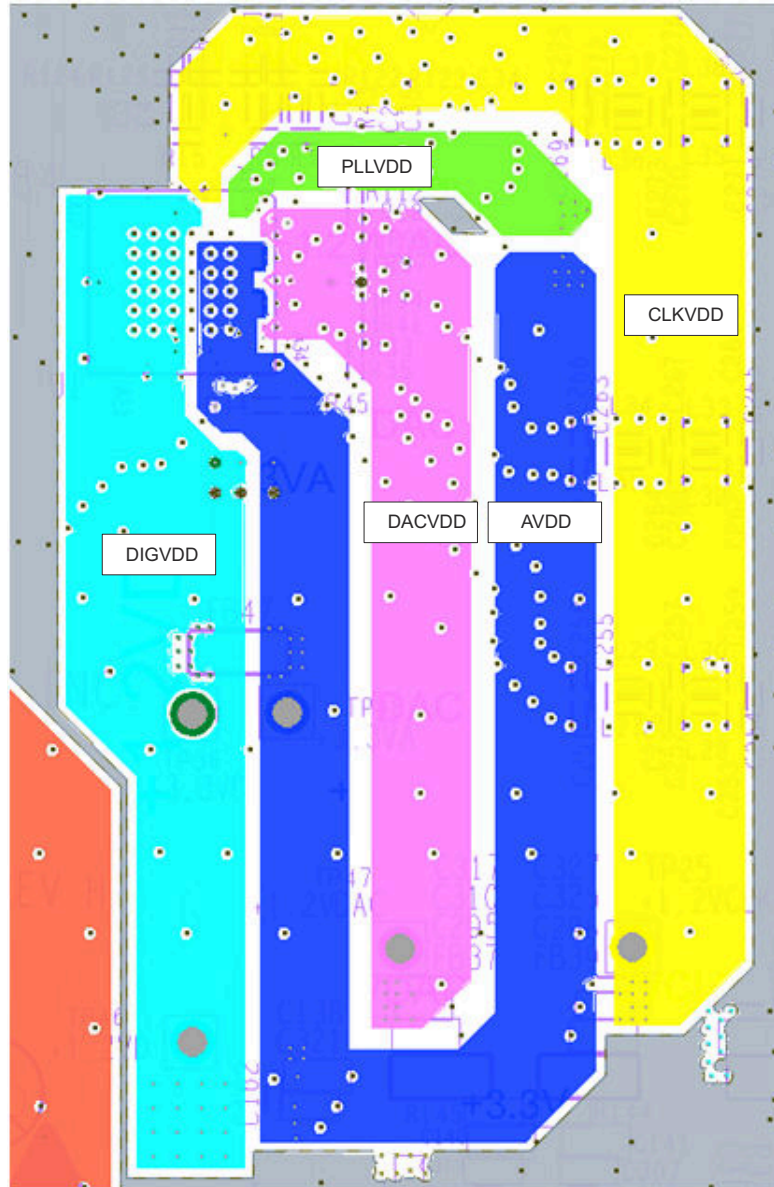
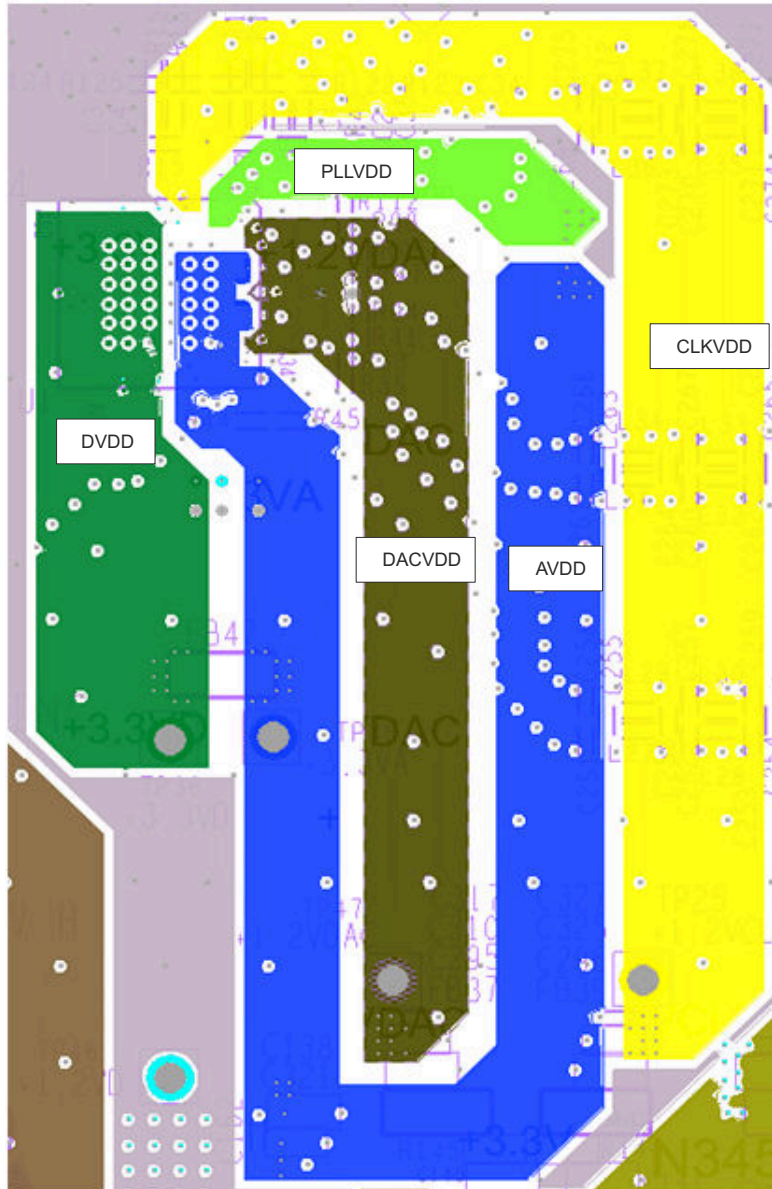

Figure 7-11. Third Layer of DAC3482 Layout Showing Power Layers. Layout Example from DAC3482EVM Rev H
Figure 7-12. Fourth Layer of DAC3482 Layout Showing Power Layers. Layout Example from DAC3482EVM Rev H
The following layout guidelines correspond to the layouts shown in Figure 7-11 and Figure 7-12.
- As shown in Figure 7-11 and Figure 7-12, both layers three and four are designated for power supply planes. The DAC analog powers are all in the same layer to avoid coupling with each other, and the planes are copied from layer three to layer four for double the copper coverage area.